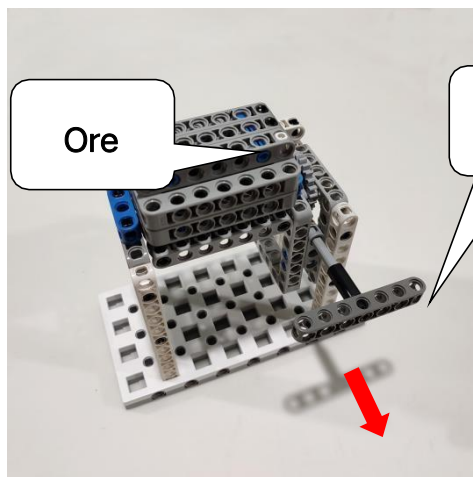

Figure 3-3-1 Initial Position
3.3.1 Mine model at its initial position can be placed anywhere on the 7 arena map locations. The red arrow shown below in figure 3-3-1 is pointing toward the same direction as the red arrow on the arena map shown in section 2.1. The orientation of the mine model is fixed as shown below in figure 3-3-1. The ore is placed horizontally on the mine model with lever parallel to the ground.